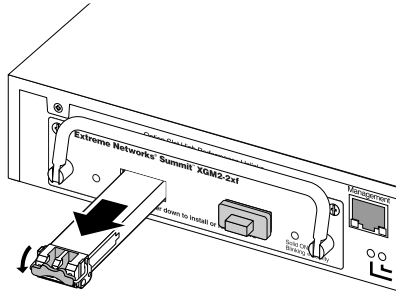

Figure 34: Removing an XFP Module
1. Rotate the handle (bail latch) on the XFP module downward (see Figure 34).
2. Carefully pull the XFP module out of the port (see Figure 34).